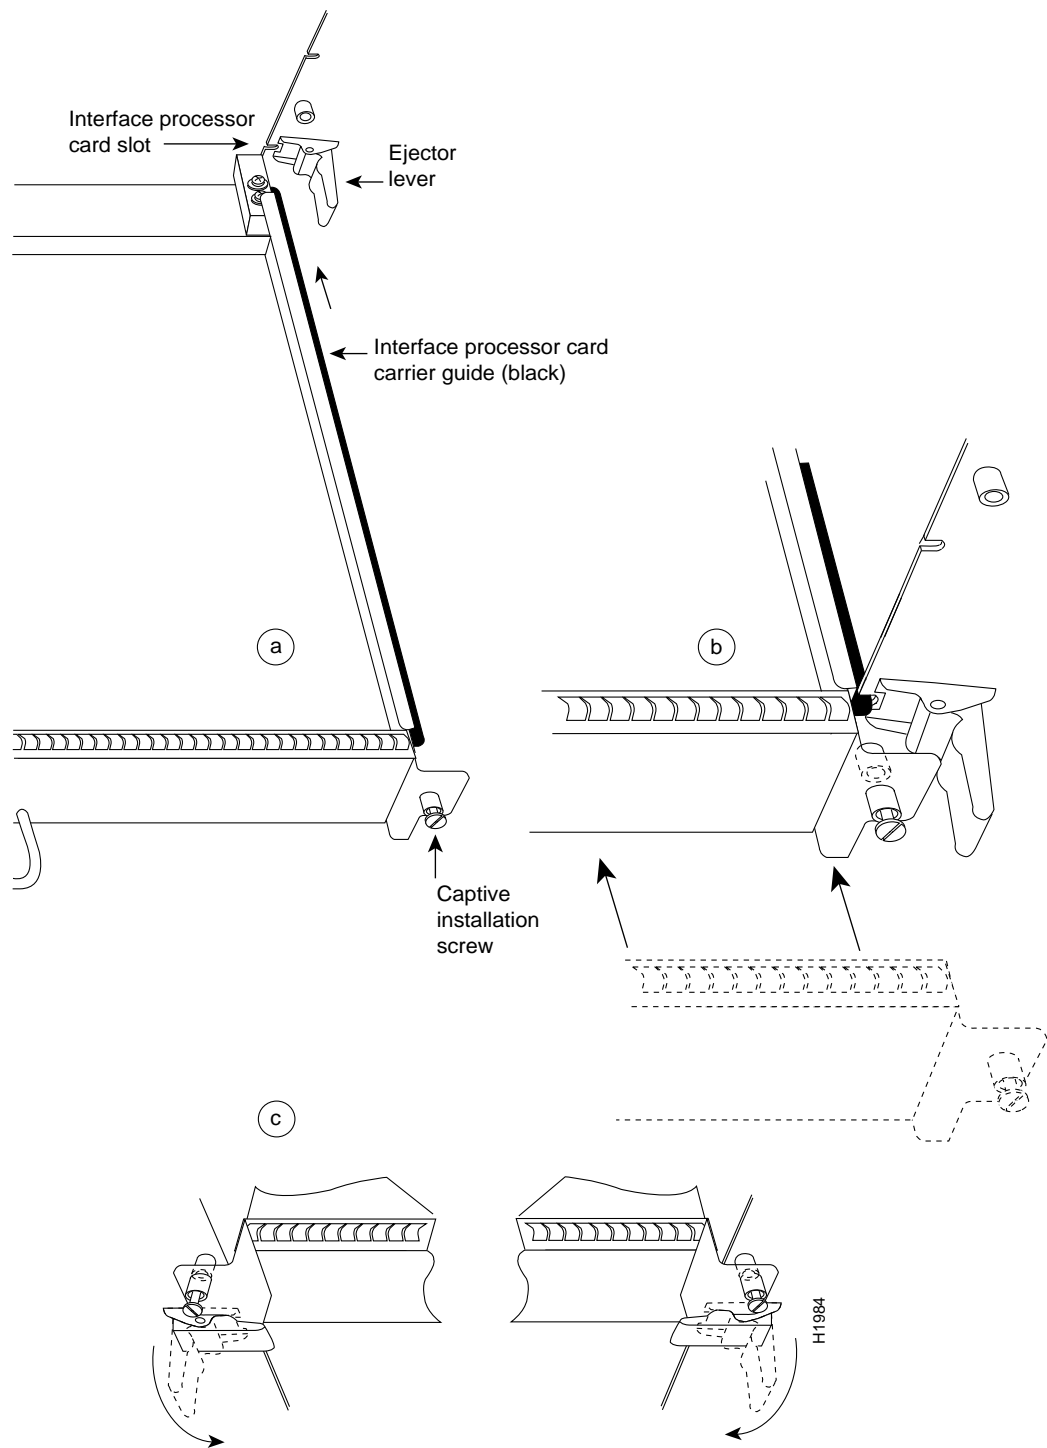

Figure 7 Ejector Levers and Captive Installation Screws on a Typical IP
Step 2 Place the back of the SP in the slot and align the notches on the ends of the carrier with the grooves in the chassis slot. (See Figure 7.)
Step 3 While keeping the SP at a 90-degree orientation to the backplane, carefully slide the carrier into the slot until the SP faceplate makes contact with the ejector levers. (See Figure 7.)
Step 4 Using the thumb and forefinger of each hand, simultaneously push the top lever (which is not shown in Figure 7) down and the bottom lever up 90 degrees to fully seat the SP in the backplane connector.
- If none of the RP LEDs light, suspect that the RP is not properly connected to the backplane connector. Turn all power supply switches OFF, then use the ejector levers at the top and bottom of the RP faceplate to ensure that it is seated properly. Push the top lever down while pushing the bottom lever up until both levers are at a 90-degree orientation to the rear of the chassis. (See Figure 7 for an illustration of the ejector levers.) Tighten both the top and bottom captive installation screws, then restart the system.
- If all RP LEDs still fail to light, suspect that an improperly connected SP or IP has hung the bus. Turn all power supply switches OFF, then use the ejector levers to ensure that each board is seated properly. On each ejector lever pair, push the top lever down while pushing the bottom lever up until both levers are at a 90-degree orientation to the rear of the chassis (See Figure 7 for an illustration of the ejector levers.) Tighten all captive installation screws, then restart the system.
- If the RP LEDs previously indicated a successful system boot, but none of the Enabled LEDs light on the SP or the IPs, suspect that the SP is not fully inserted in its backplane connector. Turn all system power OFF, then use the ejector levers to ensure that the SP is fully seated in the backplane. Push the top lever down while pushing the bottom lever up until both levers are at a 90-degree orientation to the rear of the chassis. (See Figure 7 for an illustration of the ejector levers.) Tighten the captive installation screws at the top and bottom of the SP, then restart the system.
- If the Enabled LED on a single IP is not lit, suspect that the IP has shifted out of its slot. You do not have to turn off the system power to remove and replace an IP (except the SIP). Use the ejector levers to ensure that the IP is seated in the backplane. Push the top lever down while pushing the bottom lever up until both levers are at a 90-degree orientation to the rear of the chassis. (See Figure 7 for an illustration of the ejector levers.) Tighten the captive installation screws at the top and bottom of the IP faceplate. After the system reinitializes the interfaces, the Enabled LED on the IP should light.